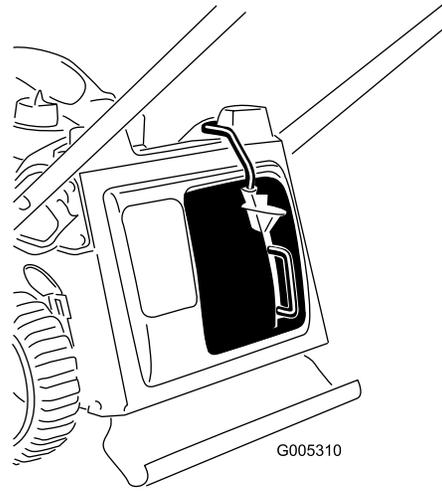

Figure 10
3. Release the button on the lever and ensure that the top of the lever is fully in the switch channel (Figure 10). **If the top of the lever is not in the switch channel, your machine will not start!**